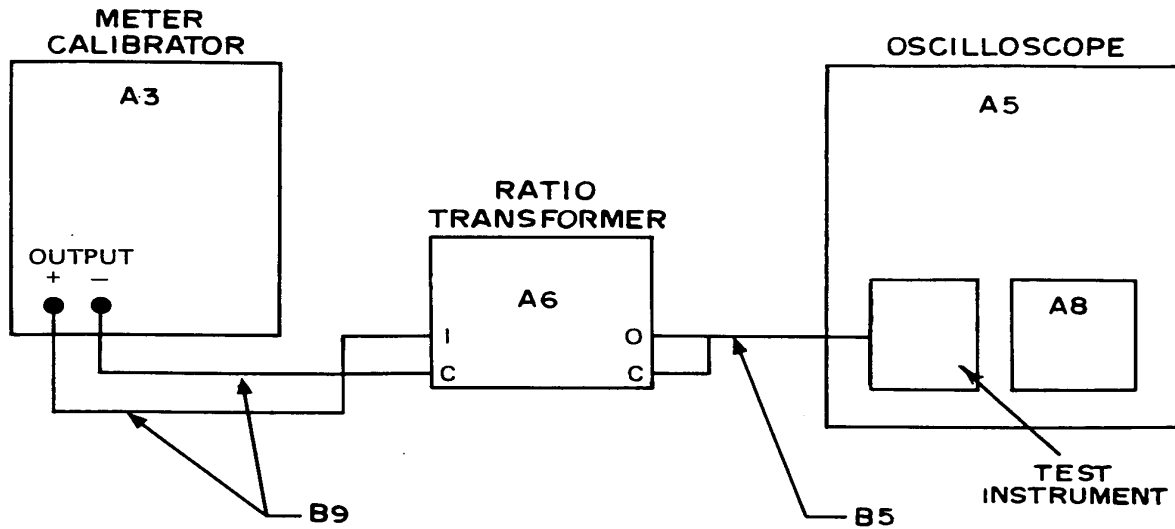

Figure 2. CH1 and CH2 gain - equipment setup.
(2) Connect equipment to TI CH1 input as shown in figure 2.
(3) Adjust time base plug-in (A8) TRIGGERING LEVEL control for automatic triggering.
(4) Adjust meter calibrator (A3) frequency to 400 Hz and amplitude output for 000.3536 volt ac.
(5) Adjust ratio transformer (A6) until 5 divisions of deflection are displayed on oscilloscope (A5) crt. Ratio transformer will indicate between .04850 and .05150.
(6) Set TI CH1 VOLTS/DIV switch to .02.